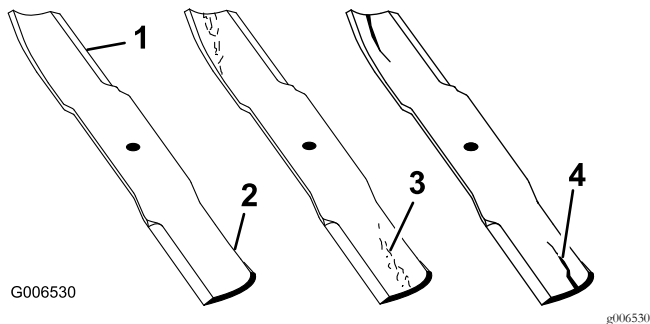

Figure 43
1. Inspect the cutting edges (Figure 43).
4. If you notice any cracks, wear, or a slot forming in this area, immediately install a new blade (Figure 43).